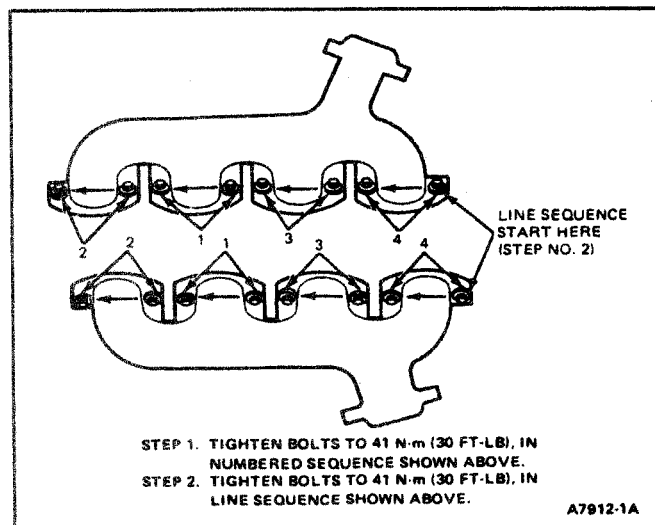

FIG. 59 Exhaust Manifold Tightening Sequence
3. Tighten bolts to specifications, using the two-step method shown in Fig. 59 and bend tabs over flats of bolt heads to prevent them from loosening and raise vehicle.
2. Tighten bolts to specifications using the two-step method shown in Fig. 59 and bend locking tabs over flats of bolts heads to prevent them from loosening.